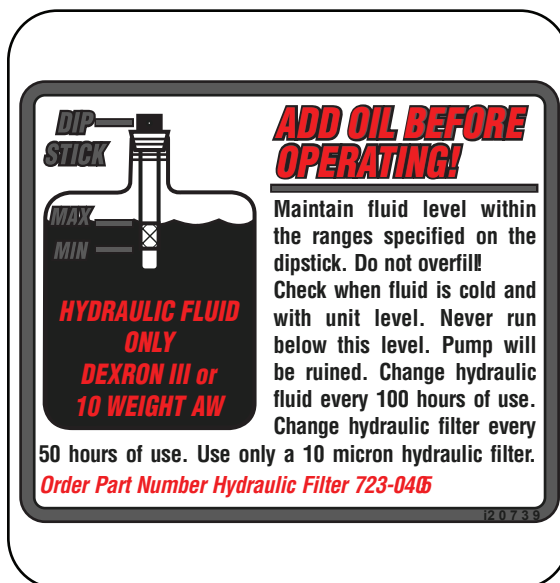

Figure 3-13
11. Refill reservoir within range marked on the dipstick. See Figure 3-13.